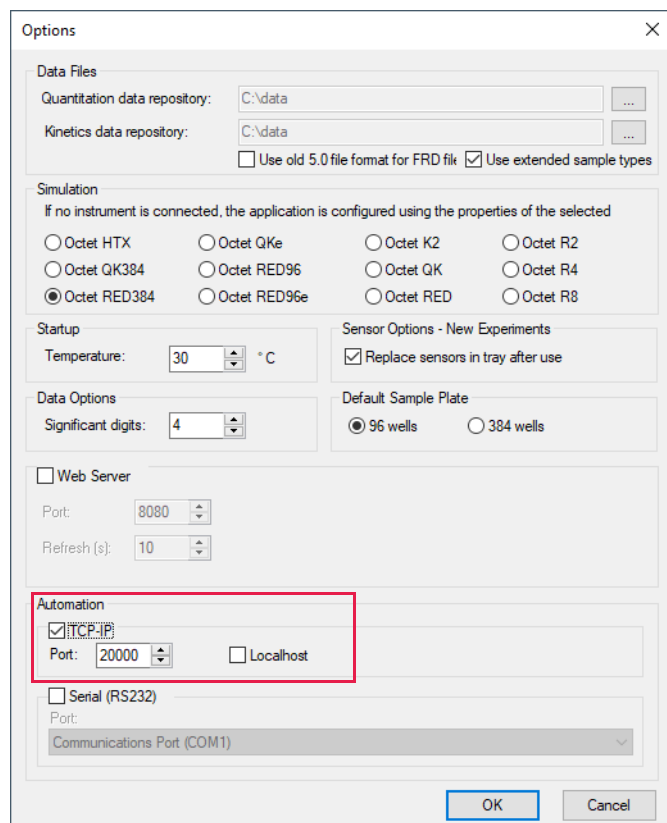

Figure A-1: Options Dialog Box—Automation Interface Selection
Before the Octet® BLI Discovery software can be controlled using an automation interface, the correct automation options must be set. To do this, go to **File > Options** (Figure A-1) and select the appropriate port in the **Automation** box.
1. In the Octet[®] BLI Discovery software, go to **File > Options** (see Figure A-1).
2. In the **Automation** box, select the communication port to be used (either TCP/IP or RS232, see Figure A-1).
4. Select the TCP/IP or RS-232 port selected previously in the Octet® BLI Discovery software **Options** dialog box (Figure A-1). To connect locally using **Localhost**, leave the **Machine** field blank.